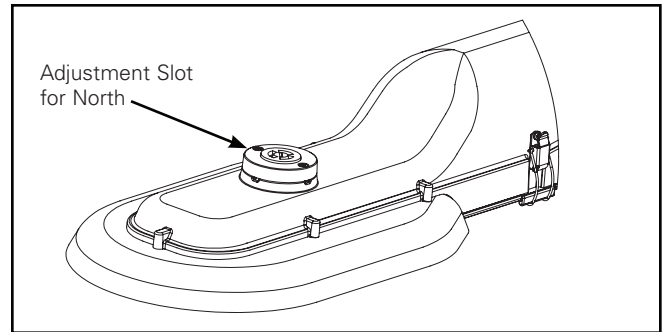
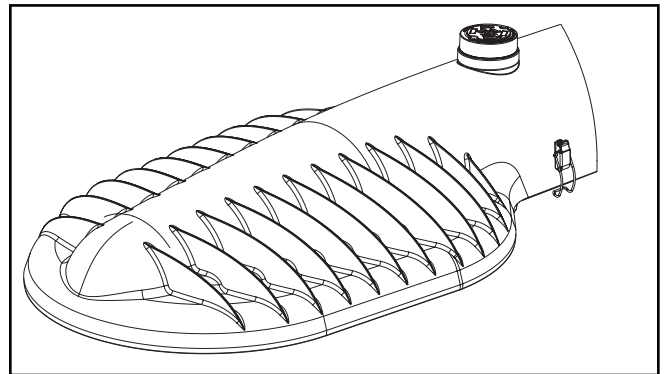

Figure 10.
Figure 11.
1. Using a flat blade screw driver, loosen the two flathead screws to allow rotation of the receptacle. (Figure 10. & Figure 11.)